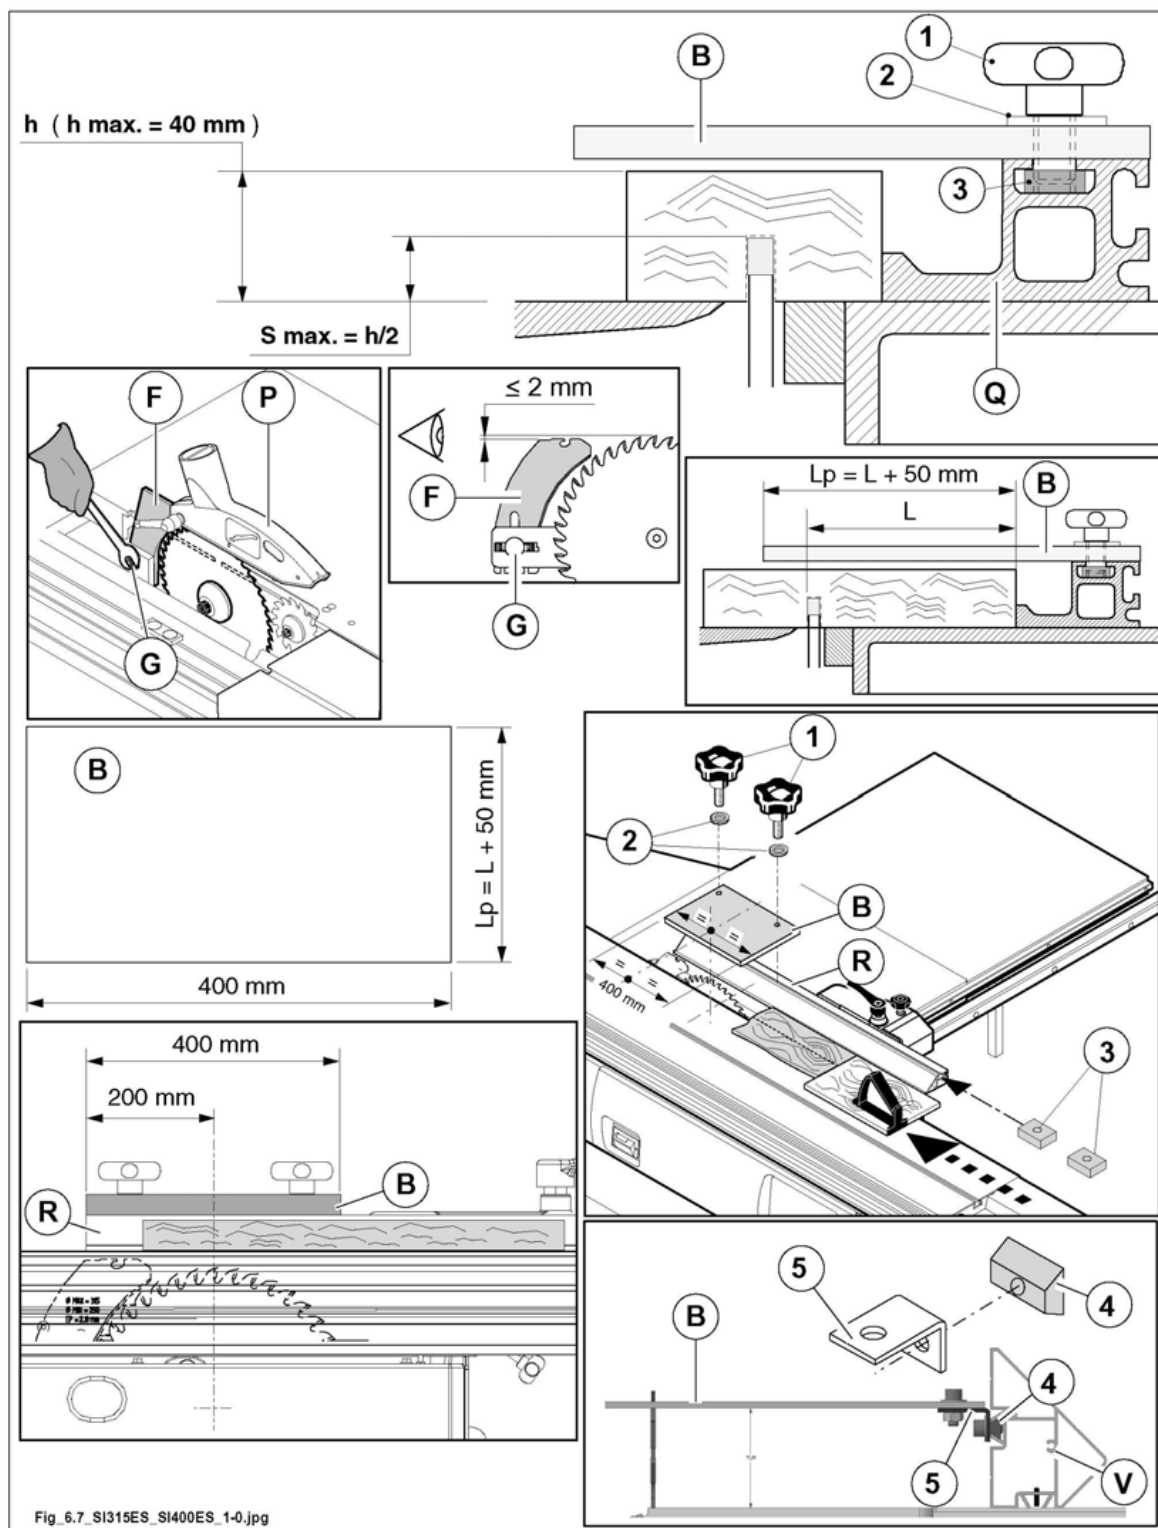

Fig. 6.7
- adjust riving knife (F fig. 6.7) height by unloosing nut (G fig. 6.7).
- prepare a protection (B fig. 6.7, not supplied by the manufacturer) made with "machinable material e.g. light alloys, plywood, polyamide, polypropylene, or other plastic material with similar specifications), and with the dimensions indicated.
Secure the protection (B fig. 6.7) to the rule (R fig. 6.7) for the parallel cut, as shown in the figure, using the fixing devices (see fig. 6.7):
- (1, 2 NOT supplied by the manufacturer), (3, supplied by the manufacturer) for rule with square groove (Q fig. 6.7).
- (4, 5 supplied by the manufacturer) for rule with V-shaped groove (V fig. 6.7).